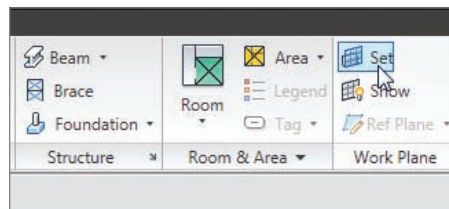

FIGURE 12.83 Click the Set button.
3. In the Work Plane dialog, click the Pick A Plane radio button, as shown in Figure 12.83.